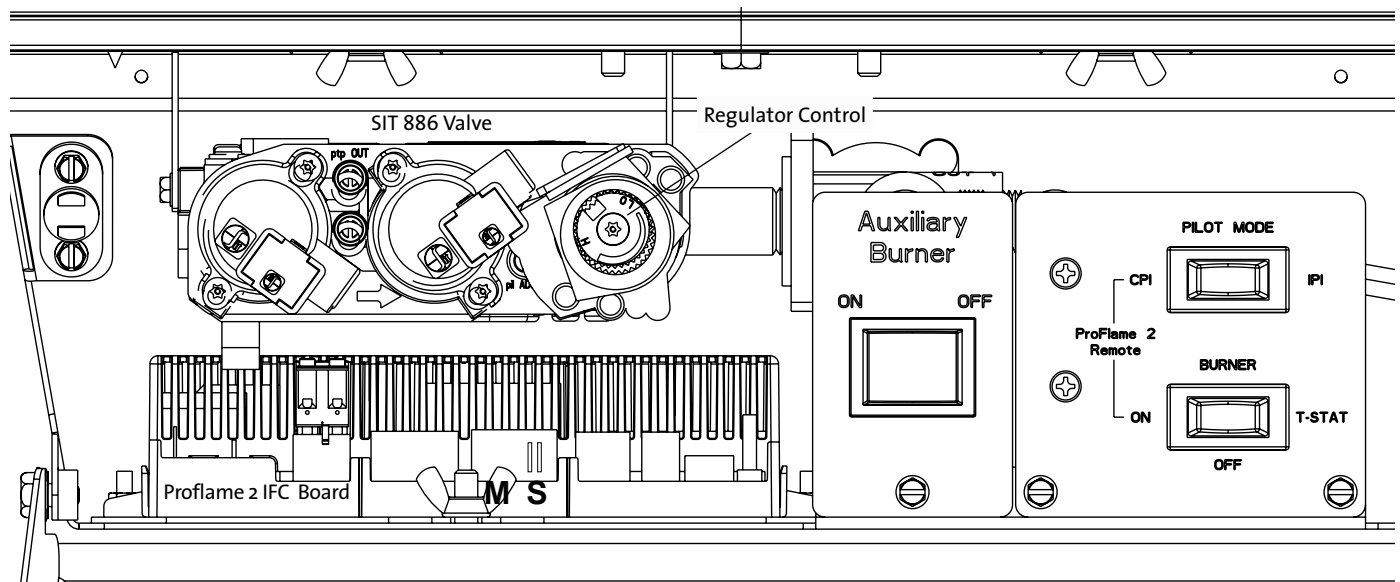

Figure 16.1. GF 500 DV IPI Controls Compartment.
1. Set the Burner switch to OFF. See fig. 16.1.
Switch the Burner to OFF. See fig. 16.1, pg. 29.